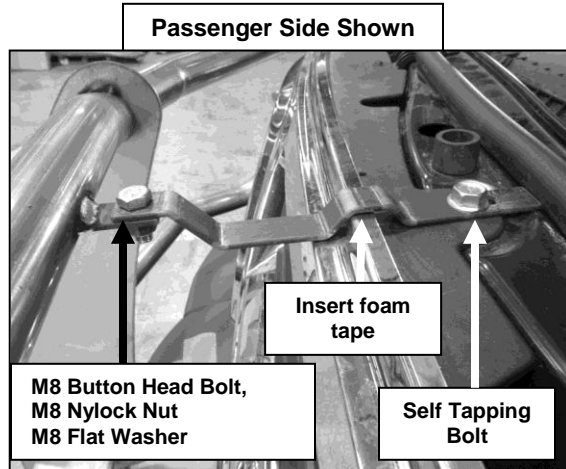

Figure 5
7. Place foam tape on top brackets as shown in figure 5. Place Top Brackets onto the existing holes where the plastic fasteners were removed. **NOTE:** Slotted hole on the Top Brackets mounts to the vehicle. In order to mount the driver side Top Bracket, you will need to slide Top Bracket under hood release cable.
8. Use the included (2) 3/8" x 1" Self Tapping Bolts to attach Top Brackets to vehicle (Figure 5).
10. Place opposite side of Top Brackets on top of the Grille Guard's upper tabs and secure them together using the included (2) M8 -1.50mm x 25mm Button Head Bolts, (2) M8 Nylock Nuts, and (2) M8 Flat Washers (Figure 5). Do not tighten at this time.